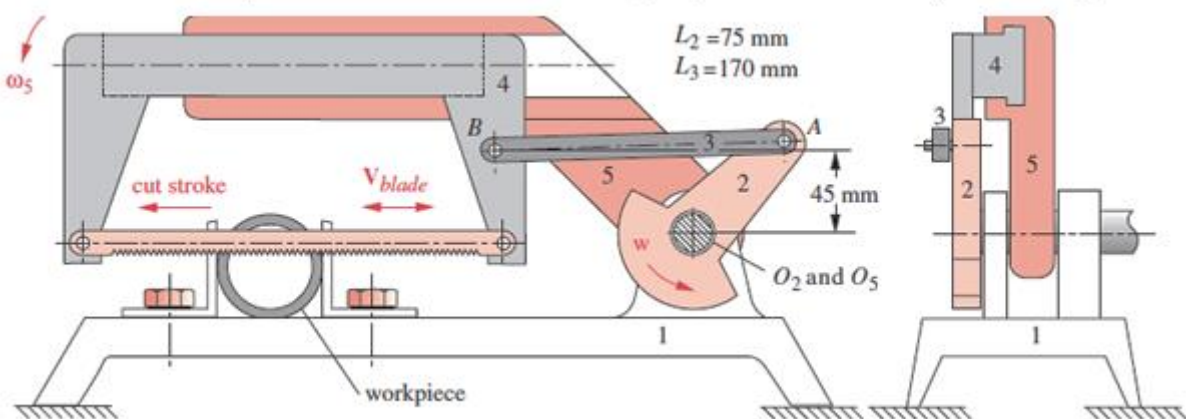

Figure.15
- 1.2 Figure.15 shows a hacksaw, used for material cutting. Sketch the dynamic diagram, and so determine the degrees of freedom.